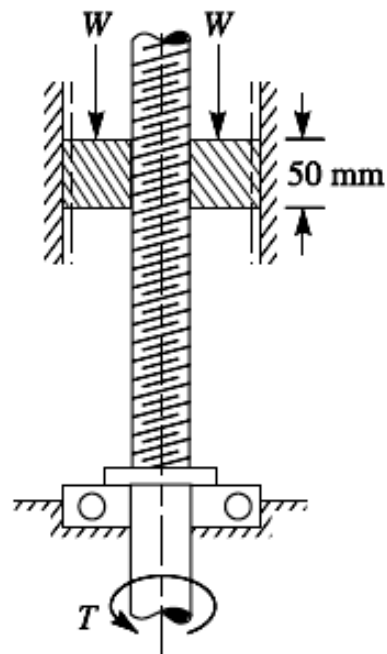

Fig. 2
- (b) The screw, as shown in Fig. 2 is operated by a torque applied to the lower end. The nut is loaded and prevented from turning by guides. Assume friction in the ball bearing to be negligible. The screw is a triple start trapezoidal thread (Take, $2\beta=30^\circ$). The outside diameter of the screw is 48 mm and pitch is 8 mm . The coefficient of friction of the threads is 0.15 . Find : **07**